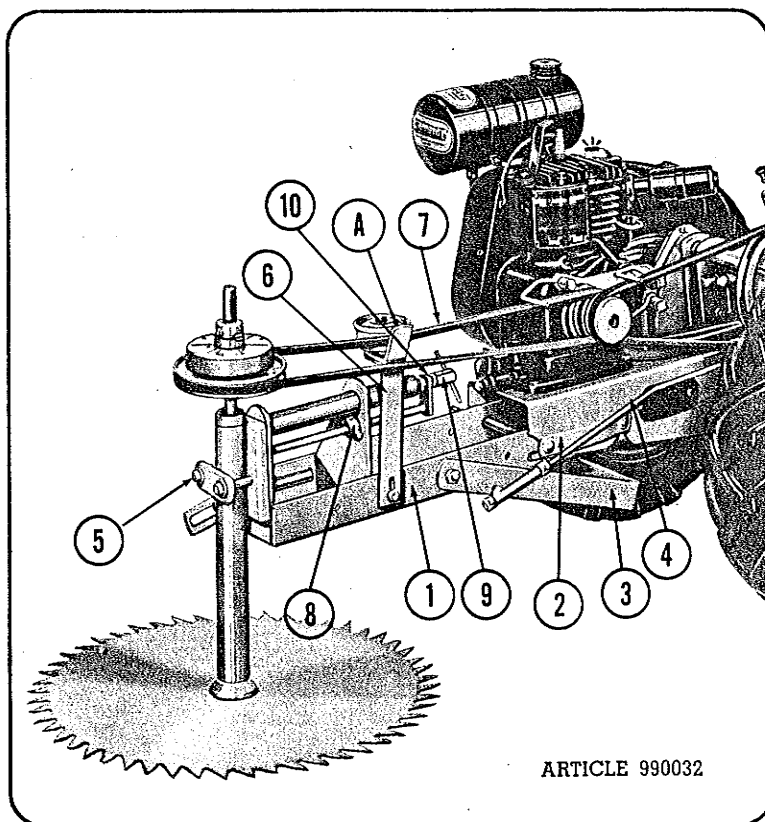

Figure 1 — Saw Mounted in Horizontal Position
1. Attach the saw frame (1, Fig. 1) to the patented QUICK-HITCH (2, Fig. 1) on the front of the tractor.
2. Tighten the two T nuts on QUICK-HITCH and drop stand (3, Fig. 1) into position on ground.
3. Attach stand rod (4, Fig. 1) to stand and to lower clutch lever with spring clips.
1. Remove one screw from arbor holder clamp (5, Fig. 1) and insert arbor in vertical position as illustrated in Figure 1.
2. Raise idler bracket (6, Fig. 1) until parallel to arbor shaft and tighten carriage bolt.
5. Place A-56 Special Belt (7, Fig. 1) over arbor pulley and over middle groove of engine pulley so belt rides on idler pulley inside of belt support, (A, Fig. 1) as shown.
6. Tighten set collar (8, Fig. 1) on adjusting screw assembly and turn tightener screw (9, Fig. 1) until belt is
tight; then lock with nut (10, Fig. 1).
7. Remove left hand hex nut and flange from end of arbor shaft. Place saw blade as shown in Figure 1 over end of arbor and secure it with flange and hex nut. To insure tightness tap wrench with hammer.